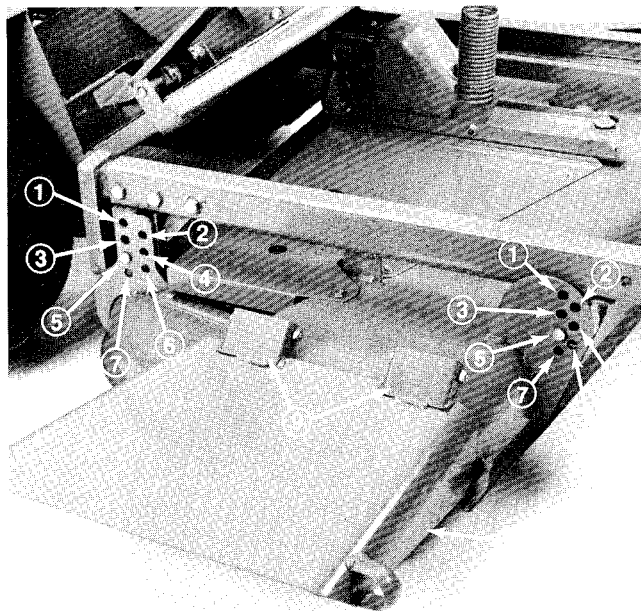

Figure 5
4. Install clevis pins through desired height-of-cut bracket holes and frame to secure cutting unit to frame (Fig. 5). Secure all four pins with hairpins.